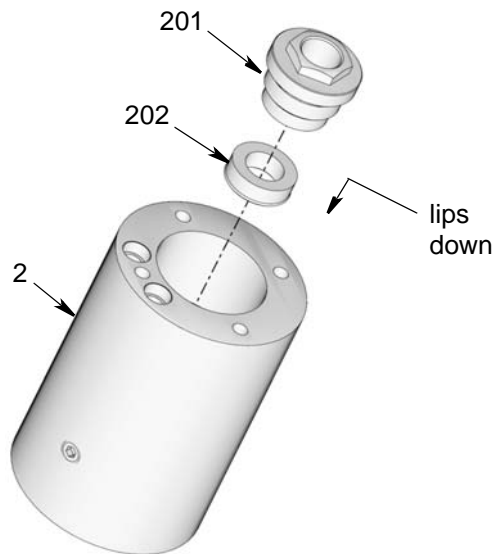

FIG. 36
1. Apply a thin layer of grease to the packing u-cup (202).
2. Use a flat, blunt-end tool to seat u-cup (202), with the lips facing down, into the pump adapter (2) (FIG. 36).
3. Install hex nut (201) inside pump adapter (2). Use a wrench to tighten nut securely (FIG. 36). Torque to 18-22 ft lbs (24 - 30 N.m)